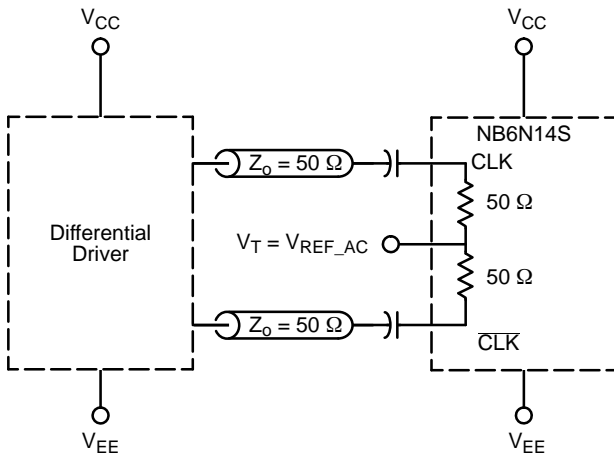

Figure 14. Capacitor-Coupled Differential Interface (V_T Connected to V_{REF_AC})
DIFFERENTIAL INPUTS DRIVEN SINGLE-ENDED (Figures 14, 15, 19, and 21)
11. V_{REF_AC} used to rebias capacitor-coupled inputs only (see Figures 14 and 15).